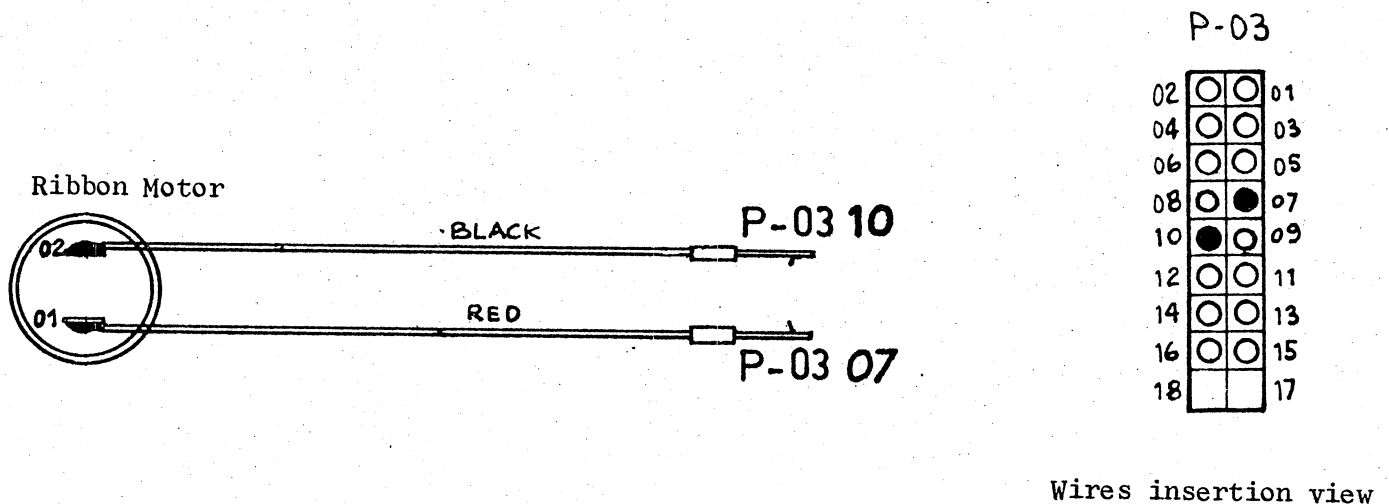

Fig. 8.18
- . Use a thin screwdriver to extract from the connector the pins which supply the tape drive motor (See fig. 8.18).
- . Insert the two ribbon drive motor supply pins in the new head connector (pos. 7 and 10). Refer to fig. 8.18.
- . Extract from the connector the two pins pertinent to the ribbon motor wiring (See fig. 8.18).
- . Insert the two motor supply pins in the head connector (pos. 7 and 10). See fig. 8.18.